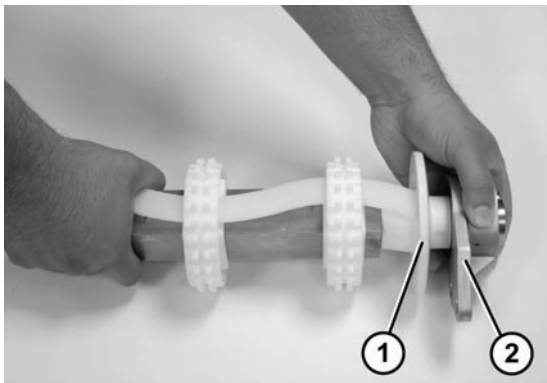

Figure 83
4. Attach the flanged pucks (**Figure 83, item 1**) and the 3 hole flange with bearing (**Figure 83, item 2**) to the drive spindle.